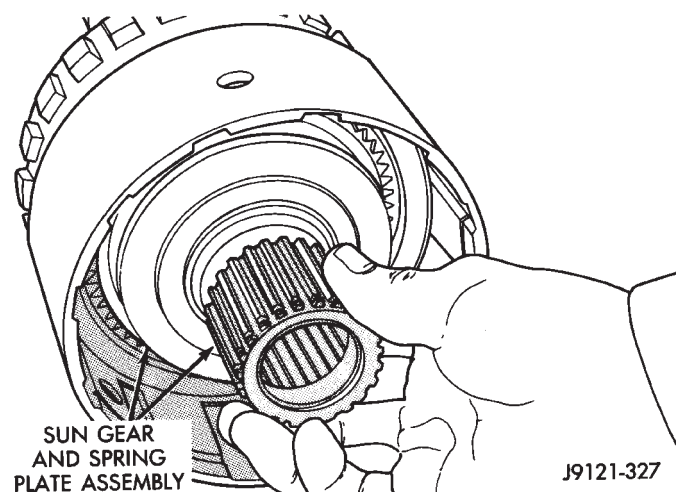

Fig. 228 Sun Gear Installation
(14) Install assembled sun gear, spring plate and thrust bearing (Fig. 228). Be sure sun gear and thrust bearing are fully seated before proceeding.